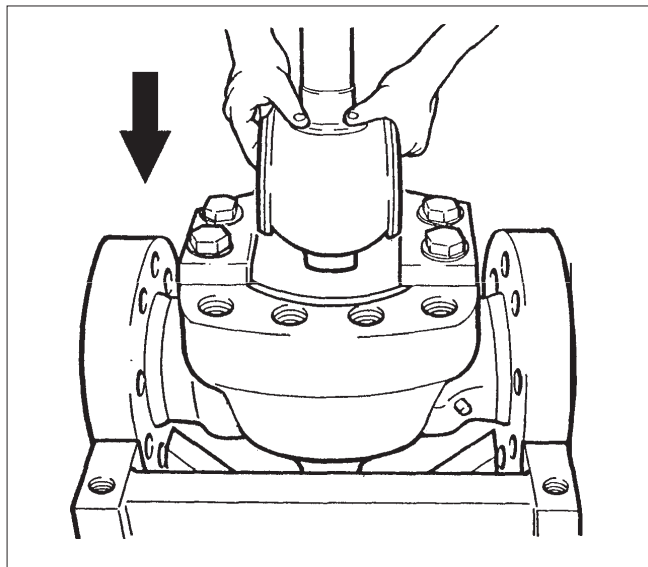

Fig. 19 Lowering the ball into the body
- Lower the ball with bearings and seats into the body, in the 'Open position'. Check that the back face of the seat does not damage the support ring seat when lowering the ball into the ball body. See Fig. 19.